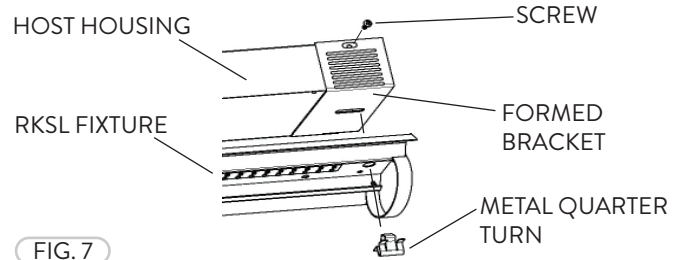
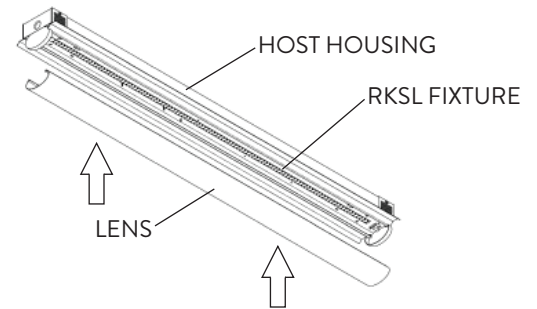
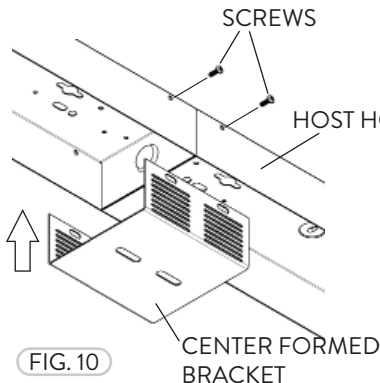

FIG. 7
FIG. 8
FIG. 10
- 3 Fasten the Brackets into place. Install the RKSL Retrofit Kit to the Brackets using Metal Quarter Turns to fasten into place (Fig.7). Install Lens gently into place (Fig. 8 & 9).
The Conversion Kit converts 2 (two) RKSL 4ft linear strip lights into 1 (one) 8ft fixture to reduce the cost of an oversize 8ft fixture. The Kit includes a Center Bracket (Bend to fit into place) and Screws (Fig. 10). Follow Retrofit Kit Installation Step 1 above. Follow Step 2 above and including the Center Bracket to the center of the Host Housing (Fig. 11). Proceed with Step 3 (Fig. 7 & 8).